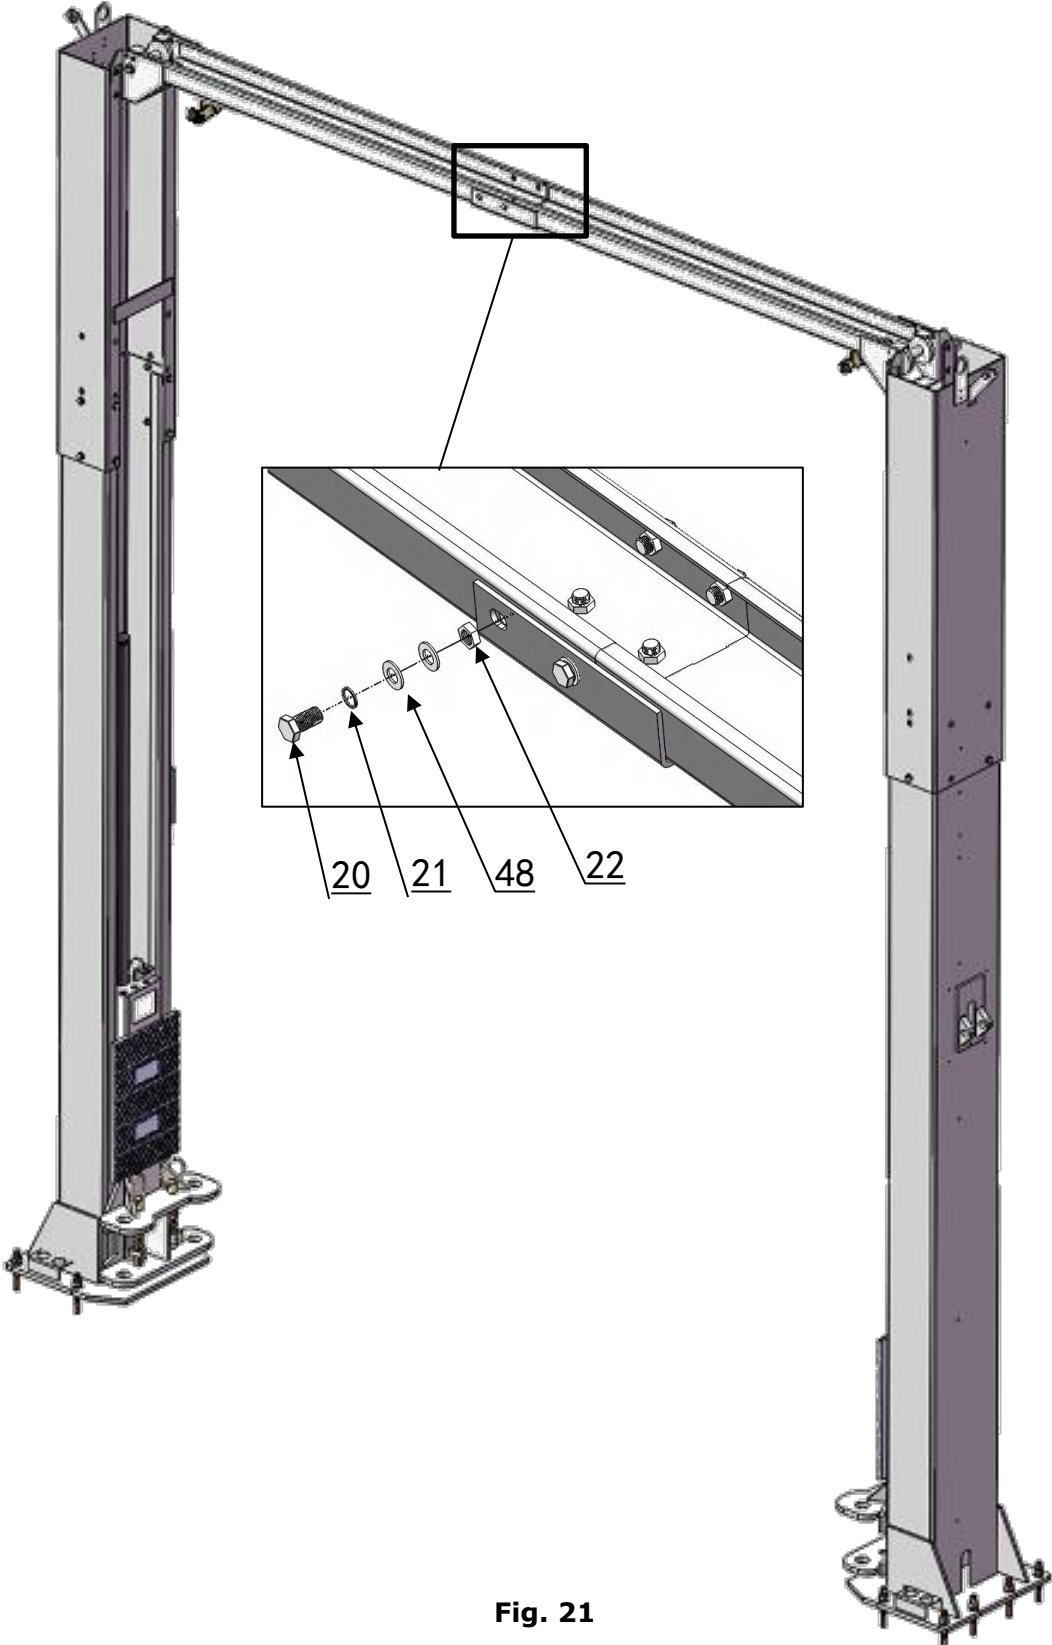

Fig. 21
2. After install the other top beam on off side outer column, bolt both top beams and tighten all the bolts. Finally tighten the anchor bolts. (See Fig. 21).